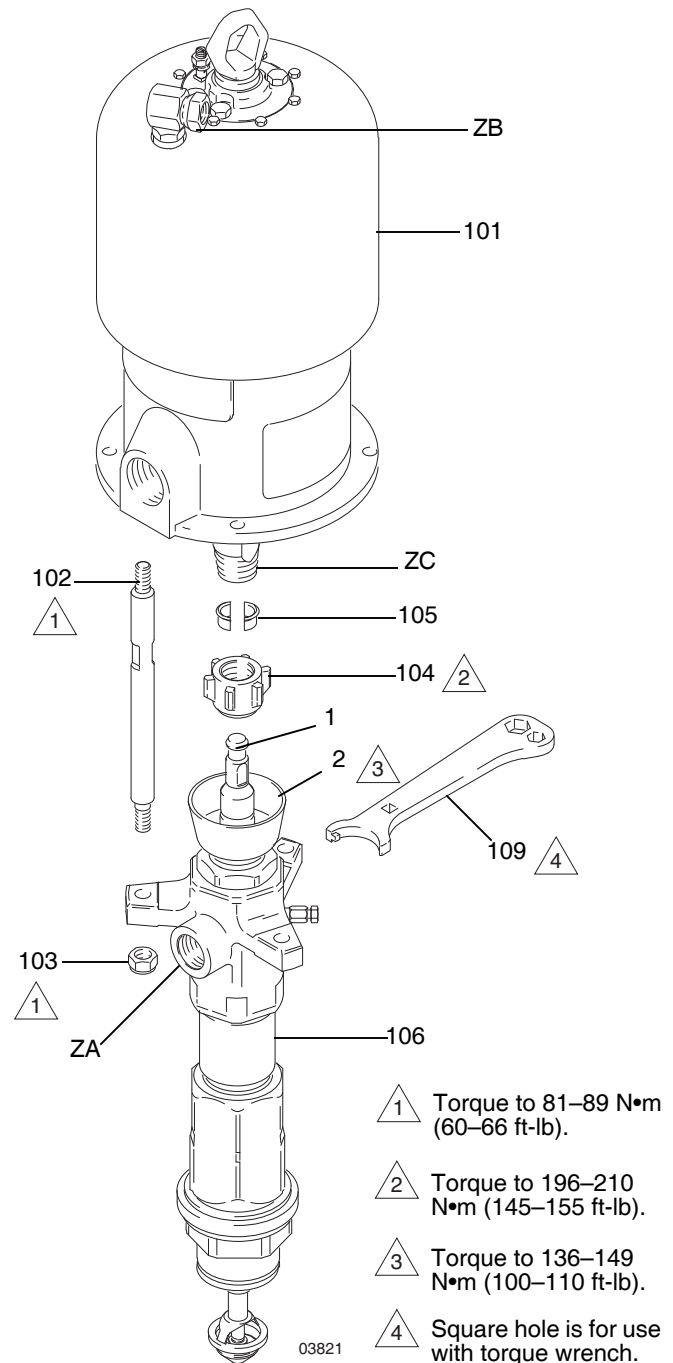

FIG. 4
- a. Use an adjustable wrench (or a hammer and rod) to unscrew the coupling nut (104) from the motor shaft (ZC). Do not lose or drop the coupling collars (105). See FIG. 4, page 14.
- b. Hold the tie rod flats with a wrench to keep the rods from turning. Unscrew the nuts (103) from the tie rods (102). Carefully remove the displacement pump (106) from the motor (101).